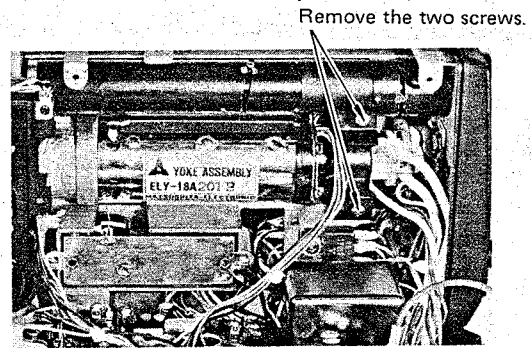

Fig. 3-4
- Remove the two screws on the deflection coil holder, and remove the holder from the chassis by lifting it a little toward the deflection circuit board. (Fig. 3-4)